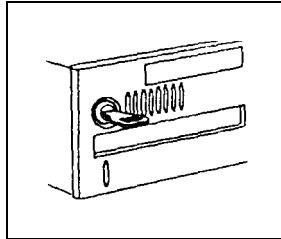

Figure 2-4. Unlocking the HP Vectra Cover
10. Unplug the computer power cord and unlock the keylock on the back of the computer (Figure 2-4).